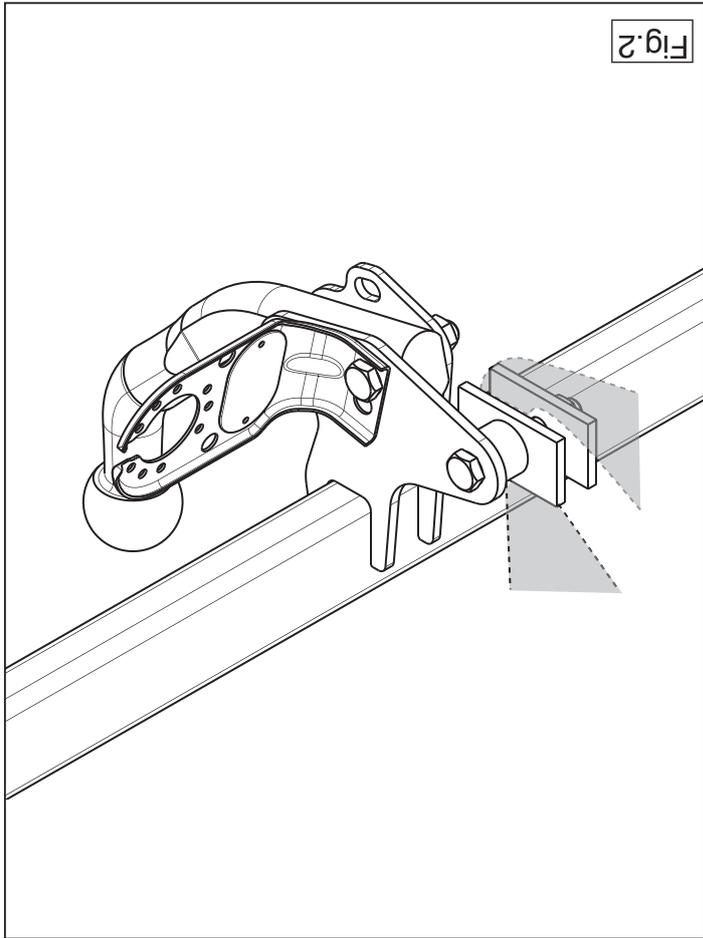

Fig.2
5. Monteer de dwarsbalk D in het midden aan de sleeпоog (fig.2).
5. Fit the cross beam D centrally onto the towing eye (fig.2).
5. Den Querbalken D in der Mitte an der Schleppöse befestigen. (Abb. 2).